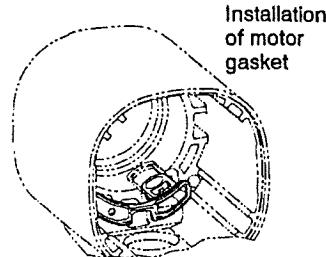

Figure 17
**NOTICE:** When disassembling, assembling or pulling the Motor, we recommend replacement of the Motor Gasket (7).
1. Install the Motor Gasket in the Housing making sure that the grooves in the tab of the Motor Gasket fit around ridge in the Housing. See Figure 17.